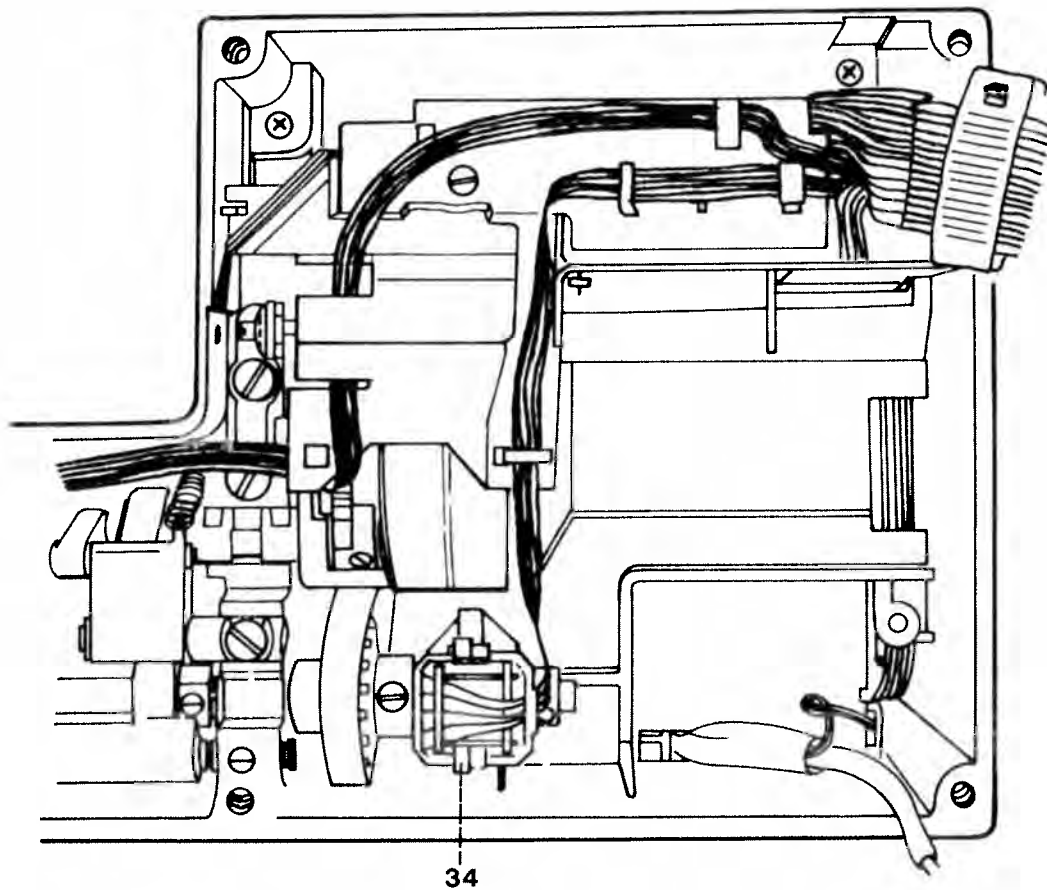

Fig. 28a
- Install all cables in the housing according to Fig. 28a.